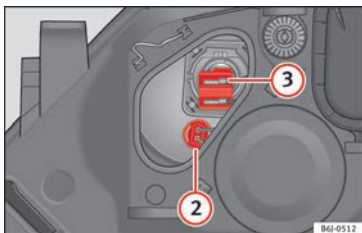

Fig. 98 Side light and main beam headlights.
- Remove connector **» Fig. 98 2** by pulling outward.
- Remove connector **» Fig. 98 3** by pulling outward.